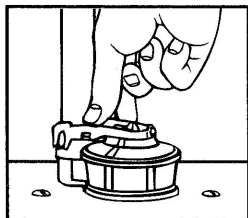

Fig. 1
2. Clean drain with a soft cloth. Align flapper over mounting ears located on base of overflow pipe. Center flapper over drain opening. Snap to mounting ears by pushing down on the rigid frame near mounting ears. Flapper should open and close without binding (Fig. 1).